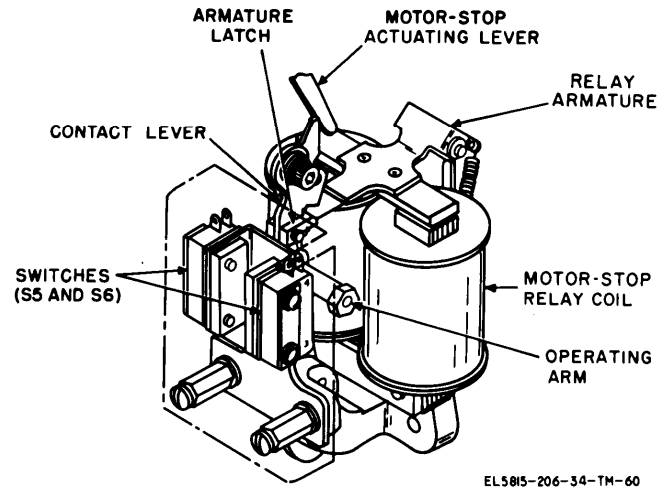
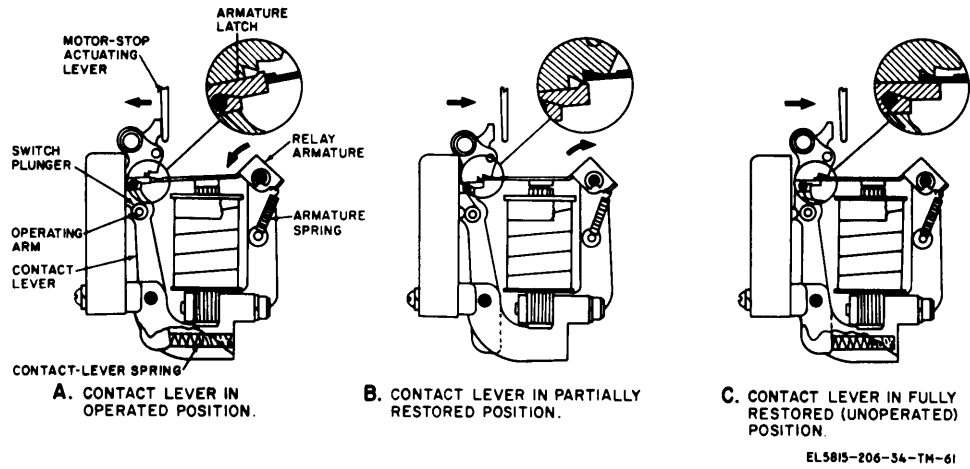

Figure 2-60. Motor-stop relay mechanism (TT-4B/TG, TT-4C/TG, TT-335/TG and TT-537/G).
Figure 2-61. Positions of TT-4B/TG contact lever.
figures-shift position), pivoting the motor-stop actuating lever. One end of the actuating lever pushes the top of the contact lever away from the motor-stop relay (fig. 2-60 and 2-62).
(a) The operating arms of the TT-4B/TG, TT-4C/TG, TT-335/TG, and TT-537/G (fig. 2-60 and 2-61) push the plungers of switches S5 and S6, and cause the circuit through each switch to open. Switch S6 is in series with the motor (fig. FO-2) and the motor stops. Switch S5 opens to remove a short circuit across the motor-stop relay, and the signal circuit current flows through the relay. The energized relay pulls the relay armature downward (A, fig. 2-61) to lock the contact lever in the operated position (away from the relay) until the motor start operation occurs (*c* below).
c. *Starting Motor.* Depression of the BREAK switch at any of the interconnected teletypewriters opens the signal circuit (fig. FO-1 and FO-2) and the motor-stop relay of each page printer is deenergized. The armature spring (fig. 2-61 and 2-63) pivots the armature upward and the contact lever moves slightly toward the restored position (position before motor-stop operation) (B, fig. 2-61 and 2-63). When the BREAK switch is released, the motor-stop relay is energized again. The armature moves downward and the contact lever moves to the fully restored position (C, fig. 2-61).
(1) The plungers of the TT-4B/TG, TT-4C/TG, TT-335/TG, and TT-537/G, and switches S5 and S6
|    | fore blank portion of type bar strikes platen; nothing printed.  | moves contact lever to operated position (A, fig. 2-61 and 2-62); motor circuit opened to stop motor; short circuit across motor-stop relay remove to energize relay; energized relay holds contact lever in operated position. |
| 14 | Contact lever moved slightly toward restored position (B, fig. 2-61 and 2-63).   |   |